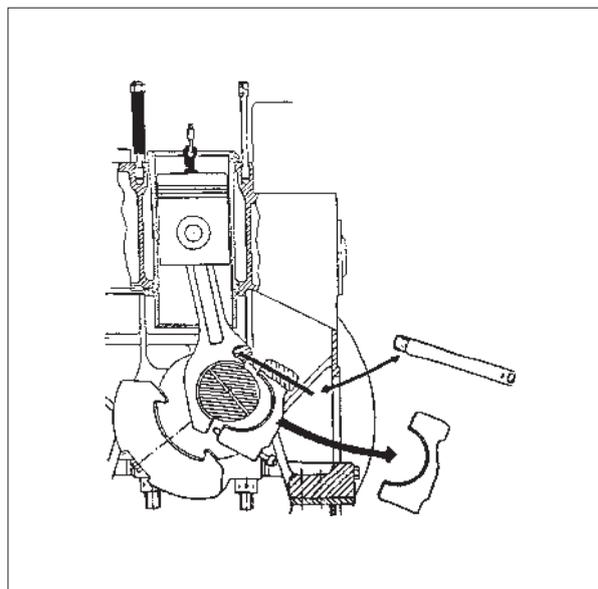

Fig. 2. Removal of bearing cap.
8) Remove the screwdriver from the guide pin, and dismount the bearing cap by sliding it along the guide pin, see fig. 2.